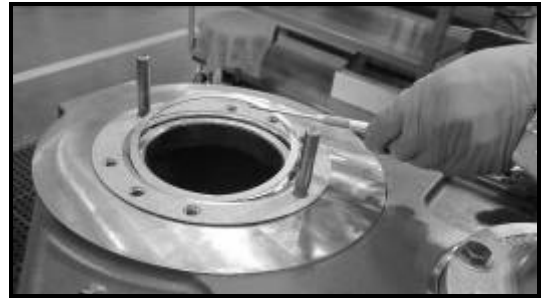

Figure 95
2. Insert the rear bearing cup into the bore on the housing. Use the original shim pack. See **Figure 95**.